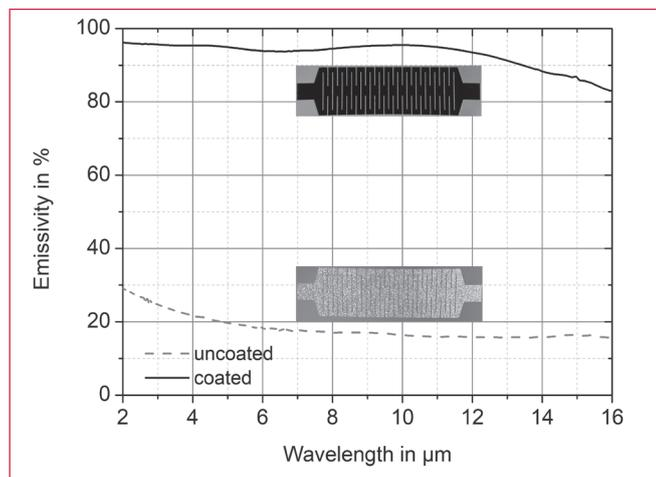

Fig. 2: Coating of the emitting filament to increase black body emissivity, patented by Infrasilid GmbH - used on both sides of the filament
1. The patented coating technology increases the emissivity on both sides of the filament (Fig. 2)